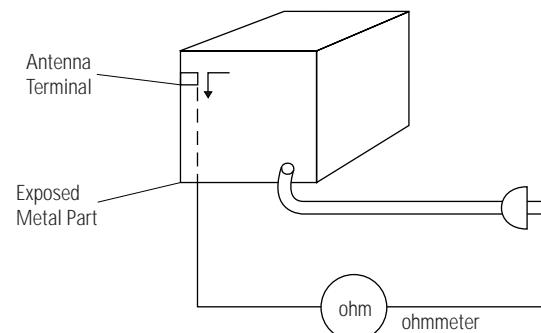

Fig. 1-2 Insulation Resistance Test
- (4) Insulation Resistance Test Cold Check-(1) Unplug the power supply cord and connect a jumper wire between the two prongs of the plug. (2) Turn on the power switch of the instrument. (3) Measure the resistance with an ohmmeter between the jumpered AC plug and all exposed metallic cabinet parts on the instrument, such as screwheads, antenna, control shafts, handle brackets, etc. When an exposed metallic part has a return path to the chassis, the reading should be between 1 and 5.2 megohm. When there is no return path to the chassis, the reading must be infinite. If the reading is not within the limits specified, there is the possibility of a shock hazard, and the instrument must be repaired and rechecked before it is returned to the customer. See Fig. 1-2.